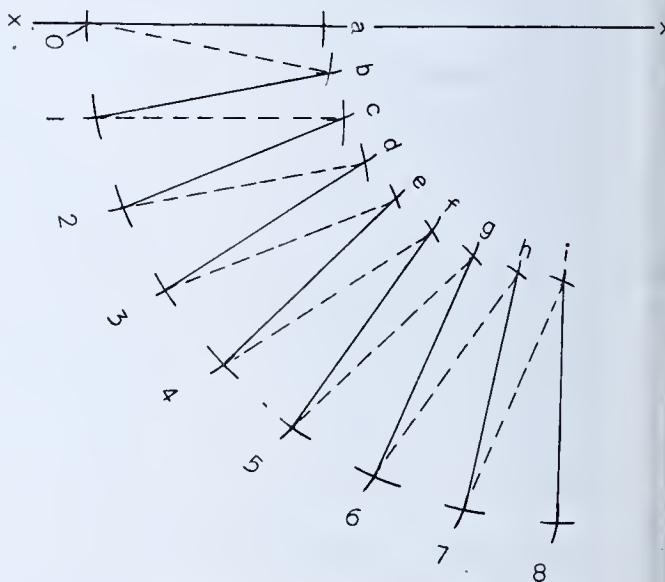
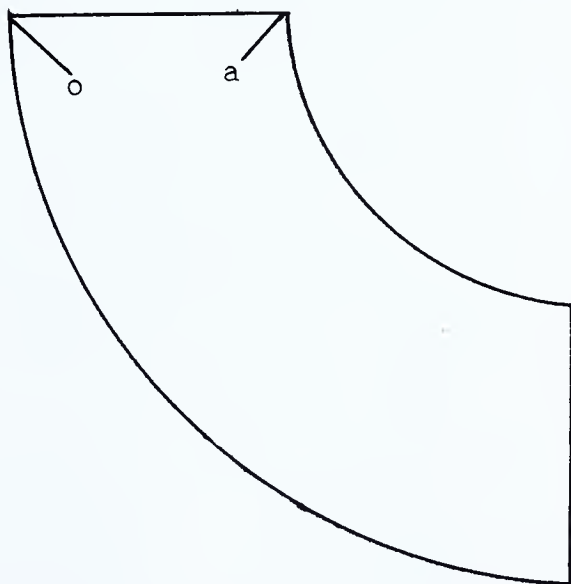

FIG. 306 — Steps 16 to 23
FIG. 307 — Curved Lines Scribed Through Intersections Scribed in Fig. 306
13. Scribe a horizontal line *x-x* close to the edge of the template paper as shown in Fig. 306.
14. Scribe a short line *o* on horizontal line *x-x* in Fig. 306.
16. Transfer this distance to *o-a* in Fig. 306.
19. Transfer this distance to Fig. 306.
21. Set the trammels to distance *o-a* (Fig. 306).
Use these settings to make successive intersections as shown in Fig. 306. The same steps are made as in Steps 17 to 22. When all the intersections have been scribed the work will appear as shown in Fig. 306.
24. Scribe curved lines (Fig. 307) to flow uniformly through the intersections scribed in Fig. 306.
5. Place the measuring wheel at point *o* (Fig. 307) and wheel the outside curve.
6. Place the measuring wheel at point *a* (Fig. 307) and wheel the inside curve.